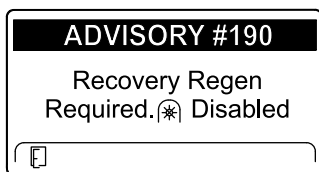

Figure 61
- Recovery regeneration required—power takeoff disabled ADVISORY #190 (Figure 61)